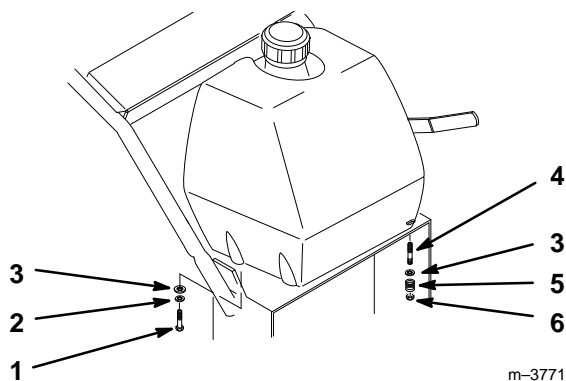

Figure 10
1. Align fuel tank to top of rear frame and secure fuel tank right side with (2) 5/16–18 x 7/8 in. (22.5 mm) bolts, (2) 5/16 lock washers and (2) 5/16 washers (Fig. 10).
2. Secure fuel tank left side to frame with (2) 5/16–18 x 7/8 in. (22.5 mm) studs, (2) 5/16 washers and (2) 5/16 locknuts (Fig. 10).